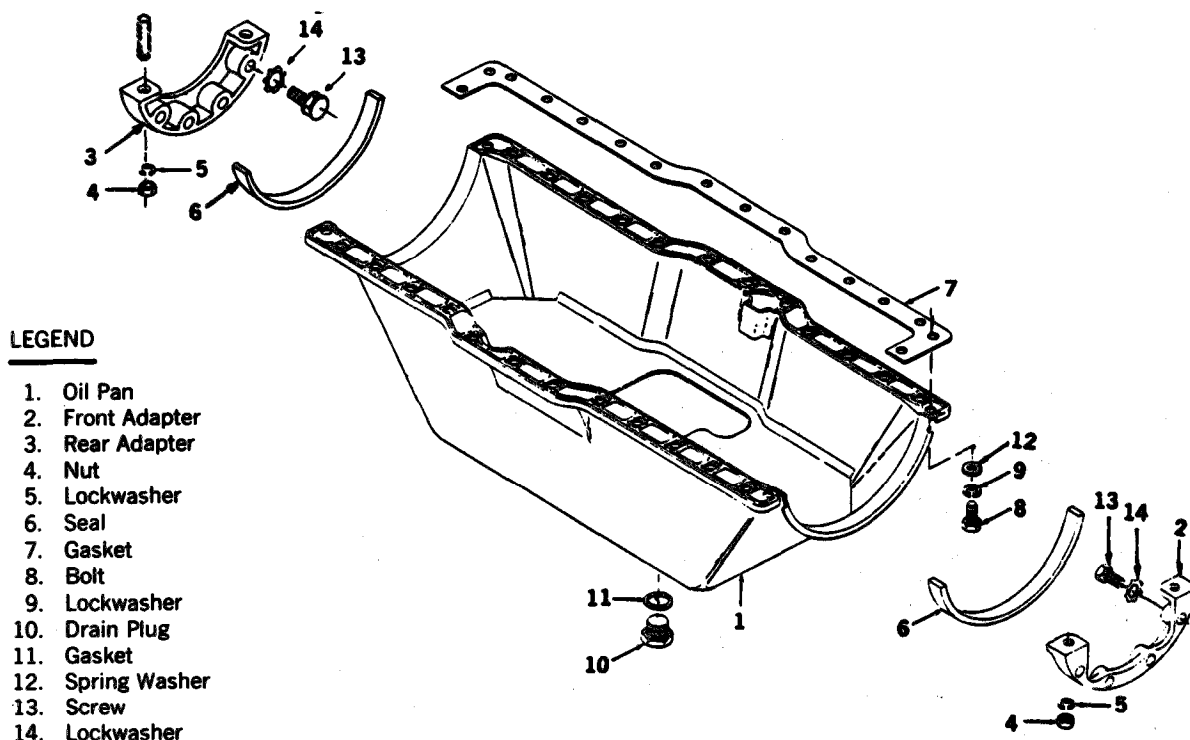

Figure 3-5. Oil Pan
Remove oil drain plug (10, figure 3-5) and gasket (11). Drain crankcase oil into suitable container. If possible, drain oil when engine is at operating temperature.
b. Support oil pan (1) and remove bolts (8), lockwasher (9), and spring washers (12). Remove oil pan (1) and gaskets (7).
c. Remove front and rear pan seals (6).
a. Discard all gaskets and seals. Make sure the gasket mounting surfaces on oil pan (1, figure 3-5), cylinder block, and oil pan adapters (2 and 3) are clean and free from burrs.
b. Steam-clean pan (1) and all mounting parts.
c. Inspect oil pan (1) for distortion, dents, and cracks. Check for signs of leakage. Repair small cracks in pan by welding. Do not weld finished surfaces.
a. Before installing oil pan, (1, figure 3-5) inspect inside of engine for loose nuts, screws, cotter pins, and lock wires; tighten or replace.
b. Remove all gasket particles from gasket mounting surface before applying new gasket (7). Cement new oil pan gasket to cylinder block using shellac, or equivalent.
c. Remove protective coverings from oil pan adapter seals (6) and apply seals to adapters (2 and 3). Make sure both ends of seal contact pan gaskets (7) on each side. Seal surfaces on adapters must be free of oil end dirt.